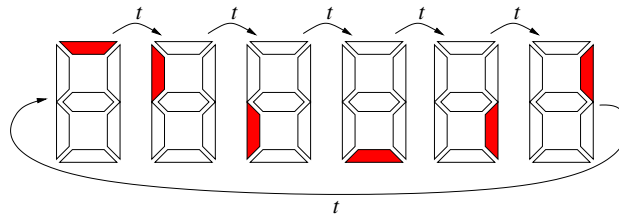

Figure 1: The pattern changes every  $t$  seconds.
3. In Verilog HDL describe a module that is able to illuminate one LED of the left most 7 segment display (AN3). After a specific time  $t$  has passed, the next LED is illuminated while the previous one is switched off. Refer to figure 1 to see the required pattern. “Rotate” the LED in an anti clock wise pattern and set  $t = \frac{1}{f_0}$ .